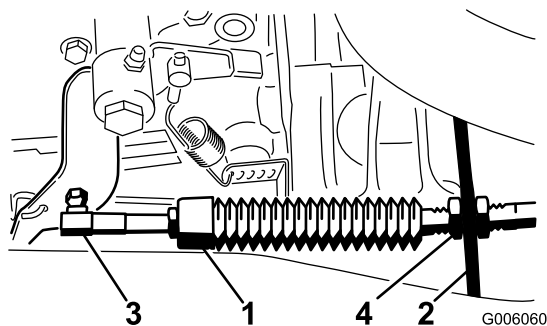

Figure 5
10. Loosen the jam nuts securing the accelerator cable to the engine bracket (Figure 5).
11. Unsnap the accelerator cable end from the ball joint stud on the engine (Figure 5).
12. Remove the nut securing the accelerator cable ball joint to the engine (Figure 5). Remove the ball joint.